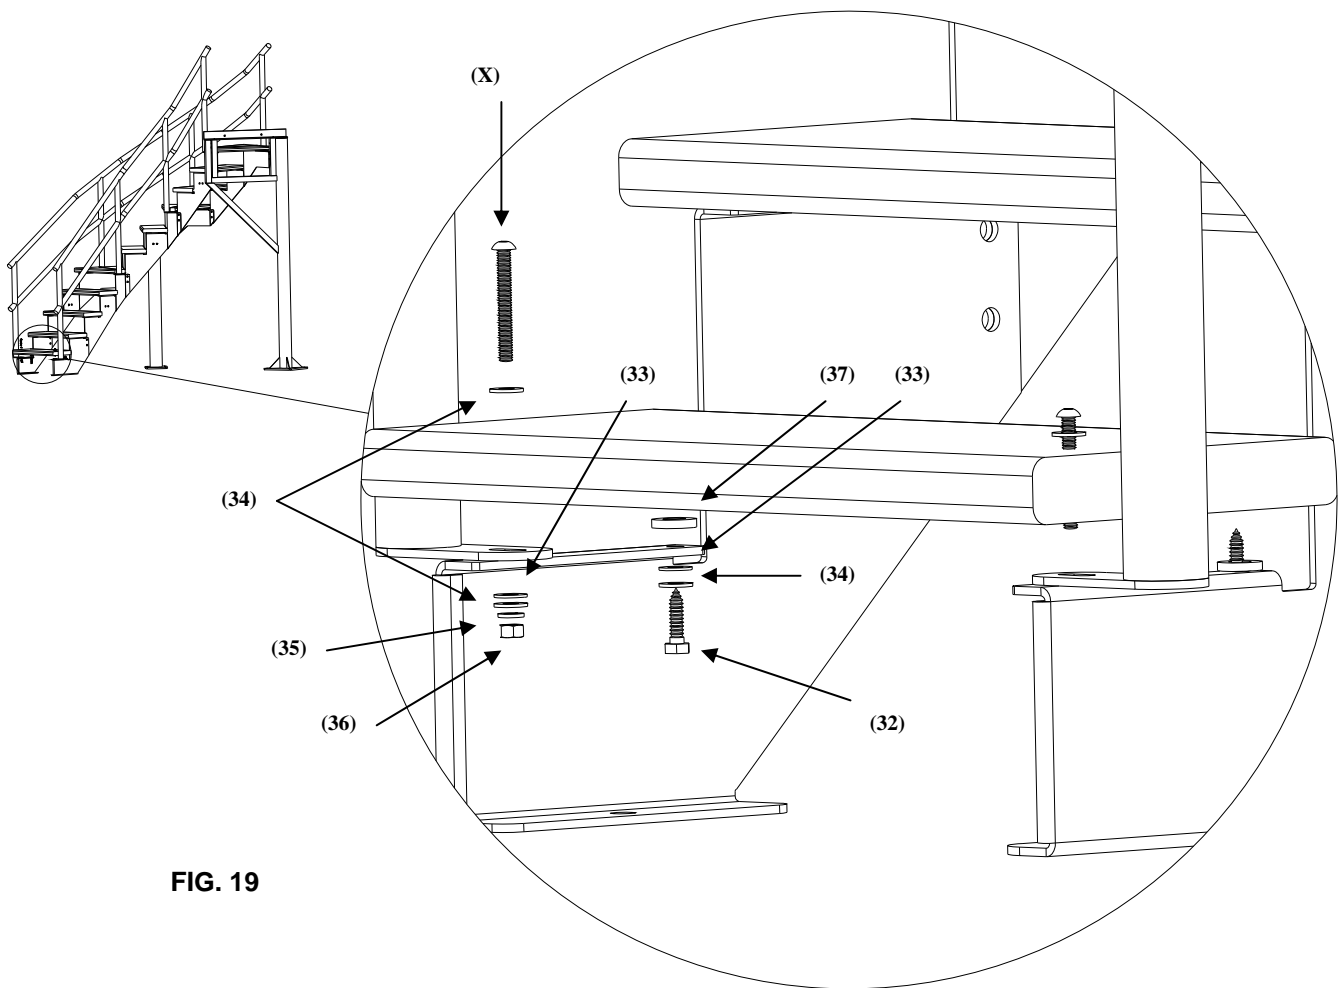

FIG. 19
For the treads where a handrail bracket is attached, you will also need to add a 3/16" Spacer (37) between the bracket and the step as shown in Figure 19. You will need to assemble the handrails to that stairs before assembling the rest of the stair treads.
On steps where here a handrail bracket is attached, you will have to use the following hardware to attach the stair treads through the brackets: 5/16" x 2.5" Socket Head Cap Screw (49), 5/16" Flat Washer (34), 5/16" Nylon Washer (33), 5/16" Flat Washer (34), 5/16" Lock Washer (35), and a 5/16" Hex Nut (36), see Figure 19.